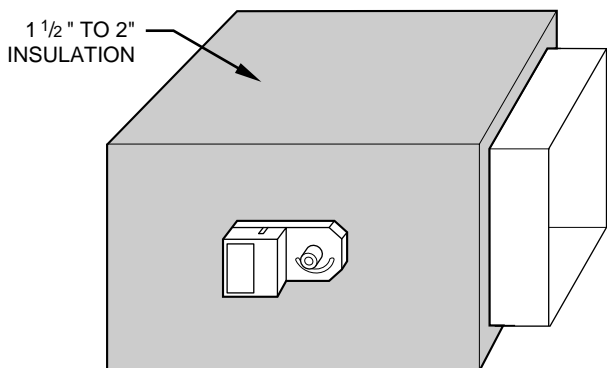

Fig. 4 — Insulated Rectangular Metal Duct Work
3. If dampers are applied in an unconditioned space, insulate damper using 1-1/2 inch to 2 inch insulation (See Fig. 4).